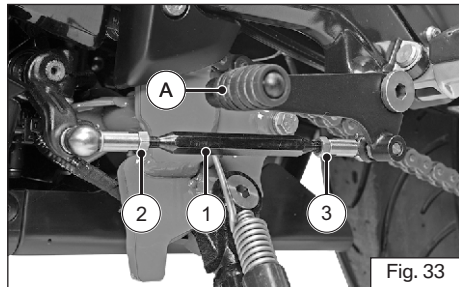

Fig. 33
- ♦ Move the rear view mirror stem (A) to the desired position (forward or backward).
- ♦ Tilt the mirror portion (B) till the clear vision is obtained (up or down).
**Gear Shift Pedal Position Adjustment (ref. Fig. 33)**